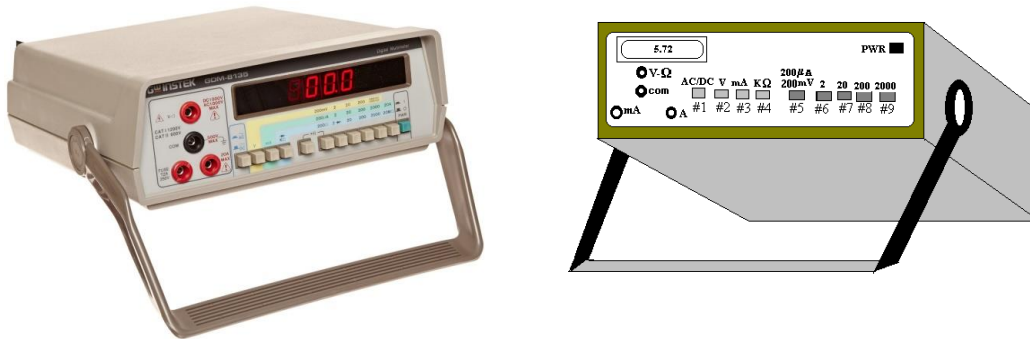

Figure D. 7: Digital Multimeter.
- 5) **Digital multi-meter:** A picture for the digital multi-meter is shown in Figure D.7. The digital multi-meter can measure DC and AC current. DC and AC voltages and resistance. Let us first show you how one can use the digital multi-meter as an ammeter. Suppose that you want to measure a DC current through a resistance R using the multi-meter, then you have to use two wires; you have to connect one end of the first wire to the COM input,
We note here that if you want to measure AC current or AC voltage using the multi-meter them you have to push in button #1 shown in Figure D.7.